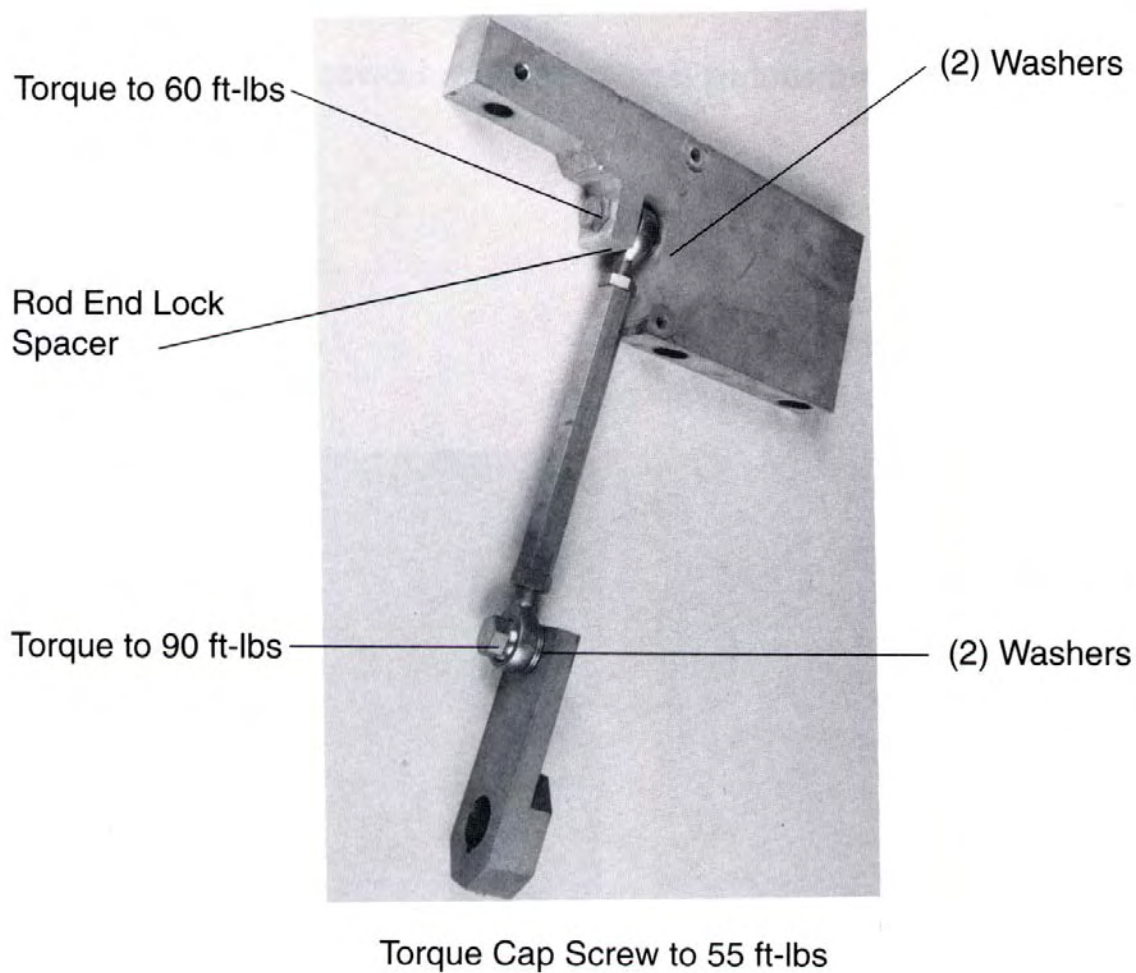

Figure 22. Completed Assembly of Upper Cup Drive Arm
13. Re-assemble rod end assemblies to drive arms, again making sure left-hand threaded ends are on the crank arms. Refer to Figures 22 and 23.